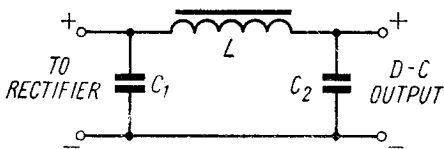

Fig. 24. Capacitor-input filter
6. The action of the capacitor-input filter, illustrated in Fig. 24, is slightly different from the choke-input filter. Here